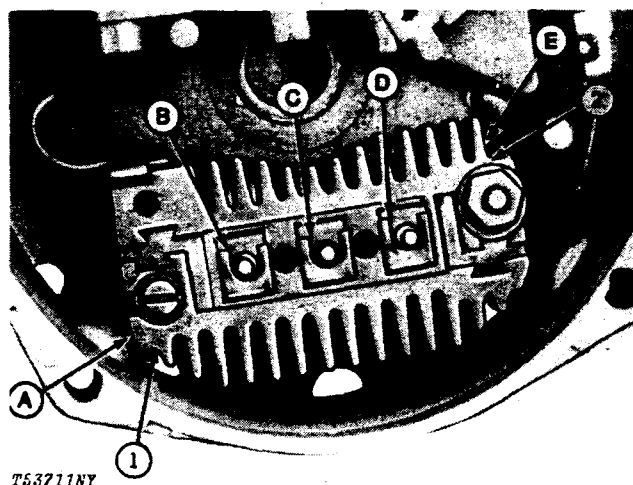

Fig. 9-Rectifier Bridge
The rectifier bridge has a grounded heat sink (1, Fig. 9) and an insulated heat sink (2) that is connected to the output terminal. Connect ohmmeter to the grounded heat sink (A) and to the flat metal strip (B, Fig. 9). Then reverse the ohmmeter lead connections. If both readings are the same, the rectifier bridge is defective. Repeat this test between points A to C, A to D, B to E, C to E and D to E.